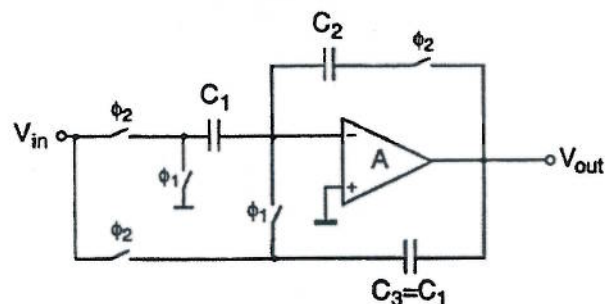

Figure 5.2
b) Figure 5.2 shows an autozeroing switched capacitor integrator capable of removing any offset in the amplifier. Derive the output voltage of the integrator during phase Φ_1 and Φ_2 indicating how the offset is removed by showing the charge on each capacitor during each phase.